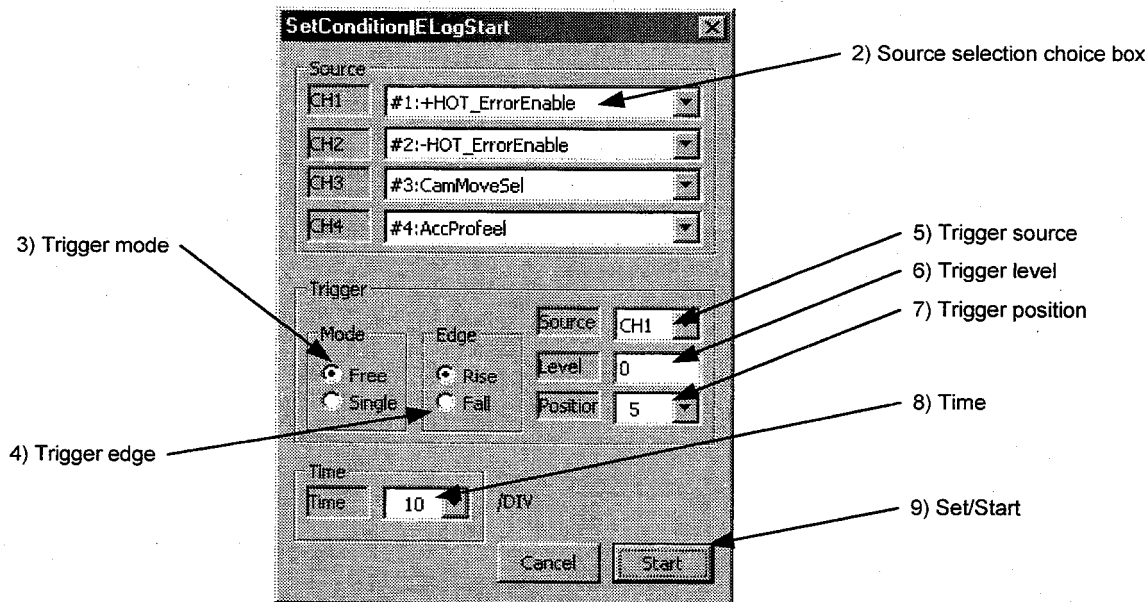

Figure 7.20 "SetCondition/ELogStart" dialog box
- (1) Click "Log Start" on the "Oscilloscope" dialog box to display the "SetCondition/ELogStart" dialog box (see Figure 7.20).